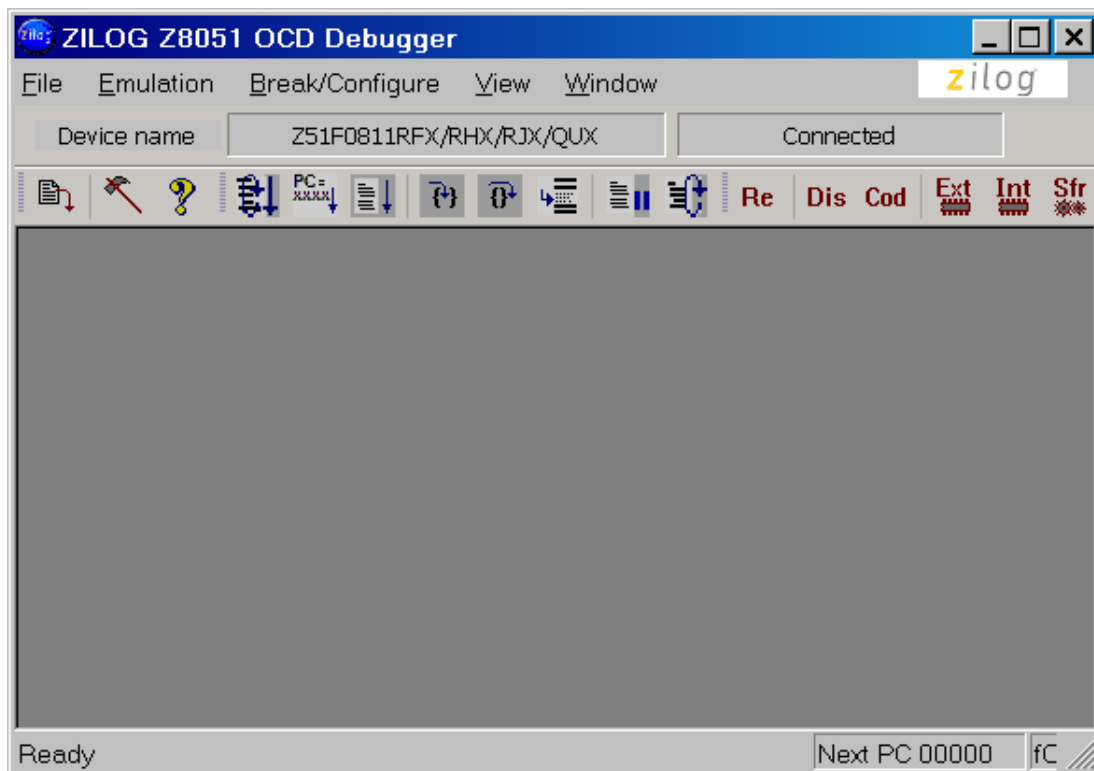

Figure 15. Initial OCD Screen
4. Run the Z8051 OCD software. From the **Start** menu, navigate to **All Programs** → **Zilog Z8051 Software and Documentation <version\_number>** → **Zilog Z8051 OCD <version\_number>**. Once launched, the program will display *Connected*, as shown in Figure 15.